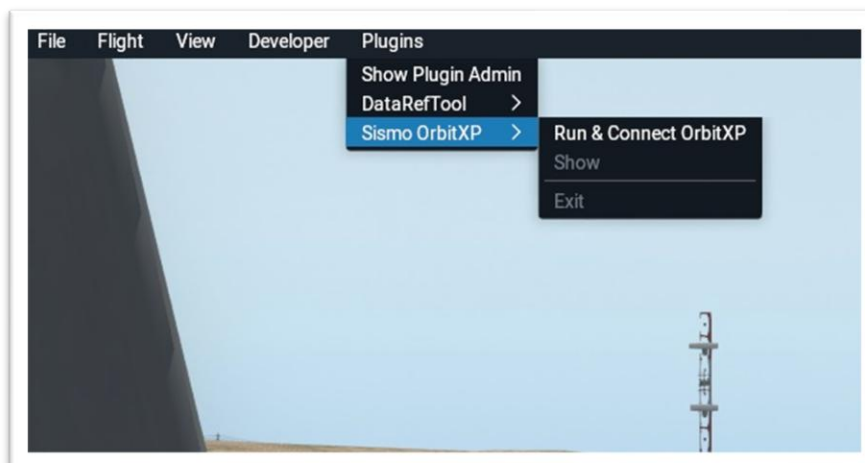

Figure-04
- You can now minimize OrbitXP. To display it again, use “Show OrbitXP” in the X-Plane plugin menu or the OrbitXP system-tray icon. Figure-04 shows the earlier label “Show”.